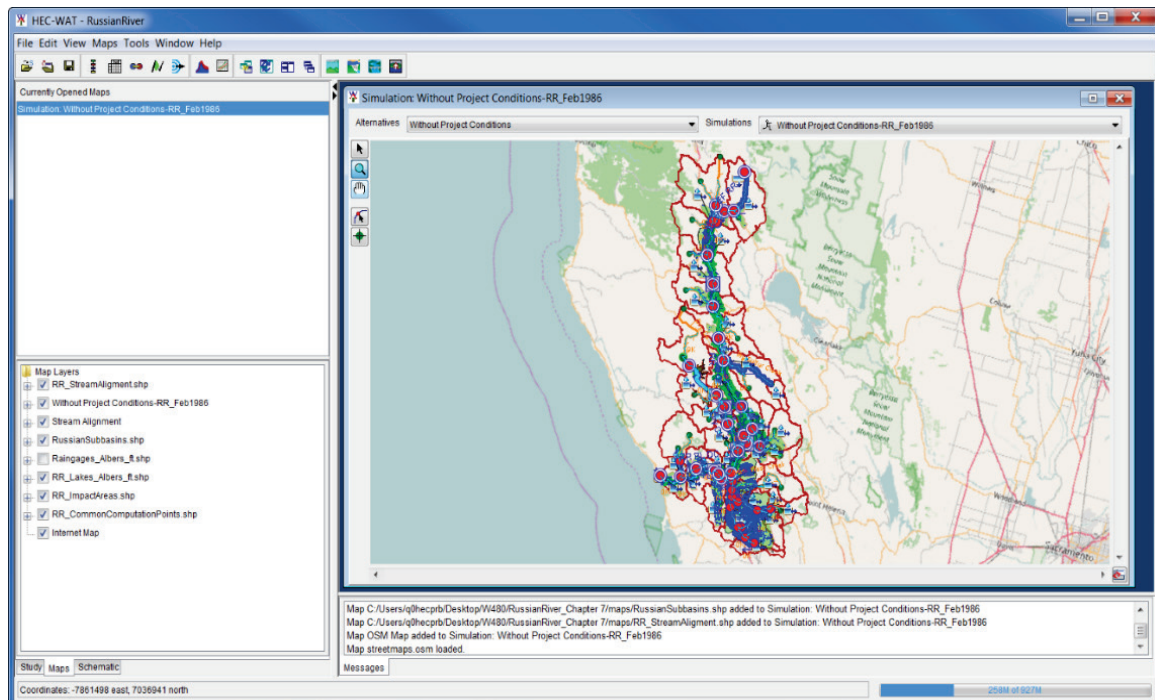

Figure 5.3 HEC-WAT Main Window – Maps Tab
5. From the HEC-WAT main window (Figure 5.3), select the **Maps** tab, there will now be an entry for the added map layers.
The shortcut menu (Figure 5.5) for map layers is accessed by right-clicking on any map layer that is listed in the **Maps** tab (Figure 5.3). This list of map layers refers to the currently active map window that is open in the **Desktop Pane** (Figure 5.3). The shortcut menu provides several ways to manipulate map layers. This ability to manipulate depends on the type of map layer (Figure 5.5), since HEC-WAT does not provide the same capabilities to all recognized map layer formats (Table 5.1). The available commands are: